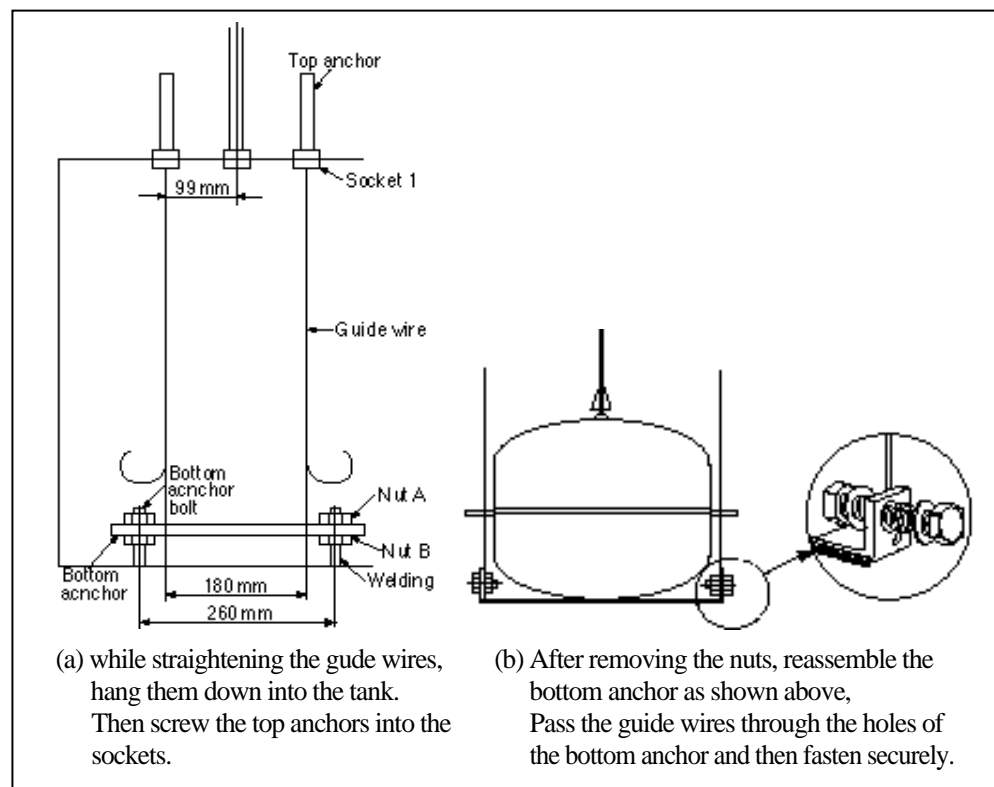

Fig. 2 Stretching Guide Wires
- (1) First, weld sockets and bottom anchor bolts as shown in (a) of Fig. 2. The bottom anchor bolts should be welded as they are passing through the bottom anchor.
- (2) Through the sockets attached to the tank top, pass the guide wires with sheave elbows down into the tank. Screw the sheave elbows into the sockets (it is not required to remove the covers from the sheave elbows). Sec (a) of Fig. 2.